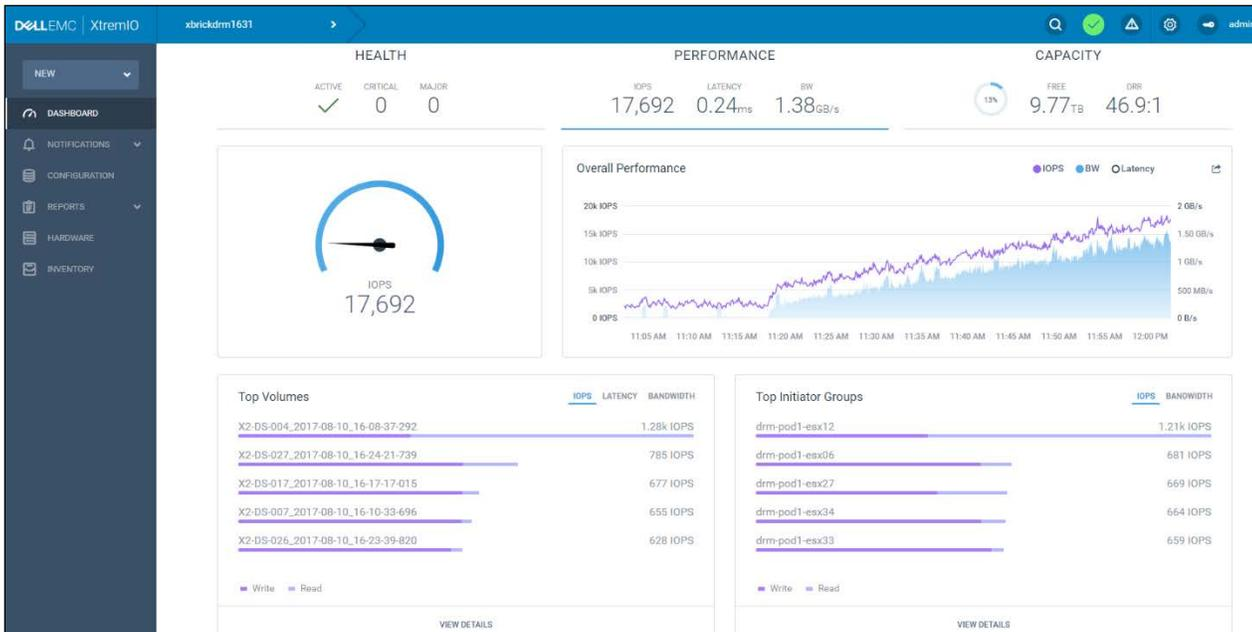

Figure 7. XtremIO Web UI – Dashboard – Performance Panel
2. Performance (shown in Figure 7): Provides an overview of the system's overall performance and top used Volumes and Initiator Groups.